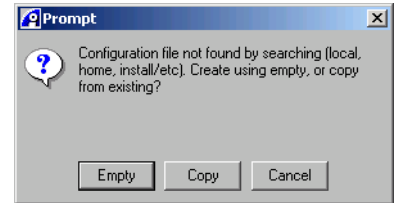

Figure B-1 Error when the configuration file is not found
- If no configuration file exists for RealView ICE, RealView Debugger displays the prompt dialog box that is shown in Figure B-1 on page B-3.